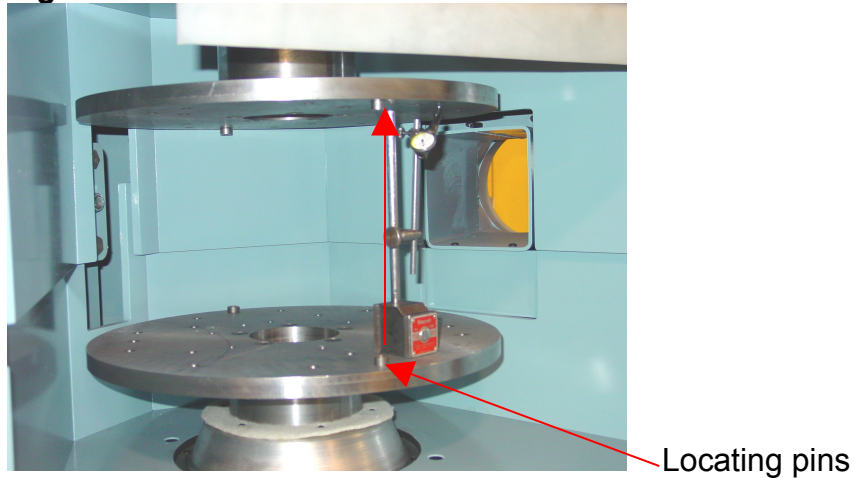

Figure 16
C. Dresser Alignment (Figure 16 on Page 13)